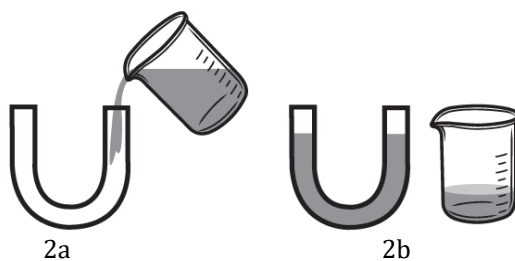
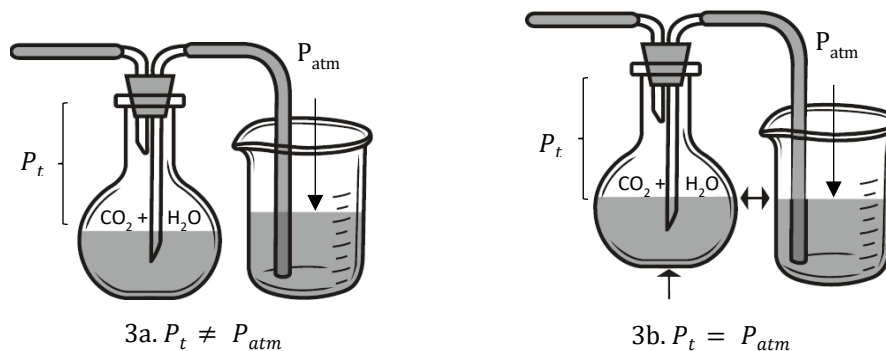

Figure 2. Mercury poured into a u-tube.
Figure 3. Adjusting the pressure in the flask by raising the Florence flask.
The atmospheric pressure of the room (P_{atm}) is equal to the total pressure in the flask, P_t , if the water level below the gas is physically held at the same height as that of the water displaced (see Figure 3). To understand the reason behind this, consider the U-tube illustrated in Figure 2. A U-tube is a hollow glass tube in the shape of the letter U. If the tube is empty and we pour mercury into the right arm (Figure 2a), when we stop pouring the mercury, the level of the mercury in the left arm will be equal to the level of the mercury in the right arm (Figure 2b). Why? Because both arms are open to the environment, therefore the pressure on both arms is equal.
- a. At this point, you have two containers with water: the 1000-mL beaker and the Florence flask. Which volume is lower, the one in the flask or the beaker? Physically raise the one that has the lower volume until the top layer of the water is as high as the top layer of the water in the other container. See Figure 3.